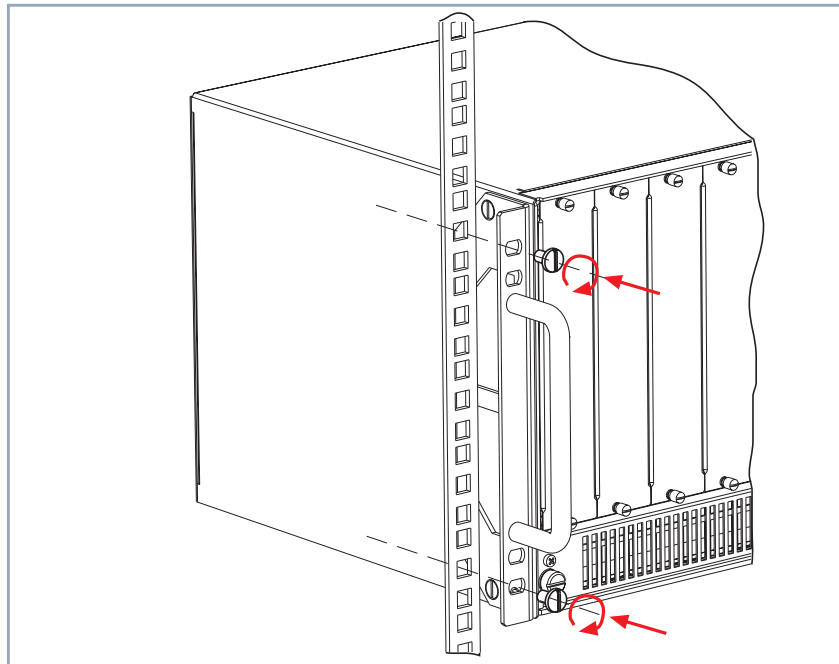

Figure 4-1: Fixing **X8500** to the 19-inch rack
- Insert the unit in the cabinet and screw it to the longitudinal sections of the rack or cabinet as shown in figure 4-1, page 32 (these screws are not supplied with **X8500**, but are included with the rack or cabinet).